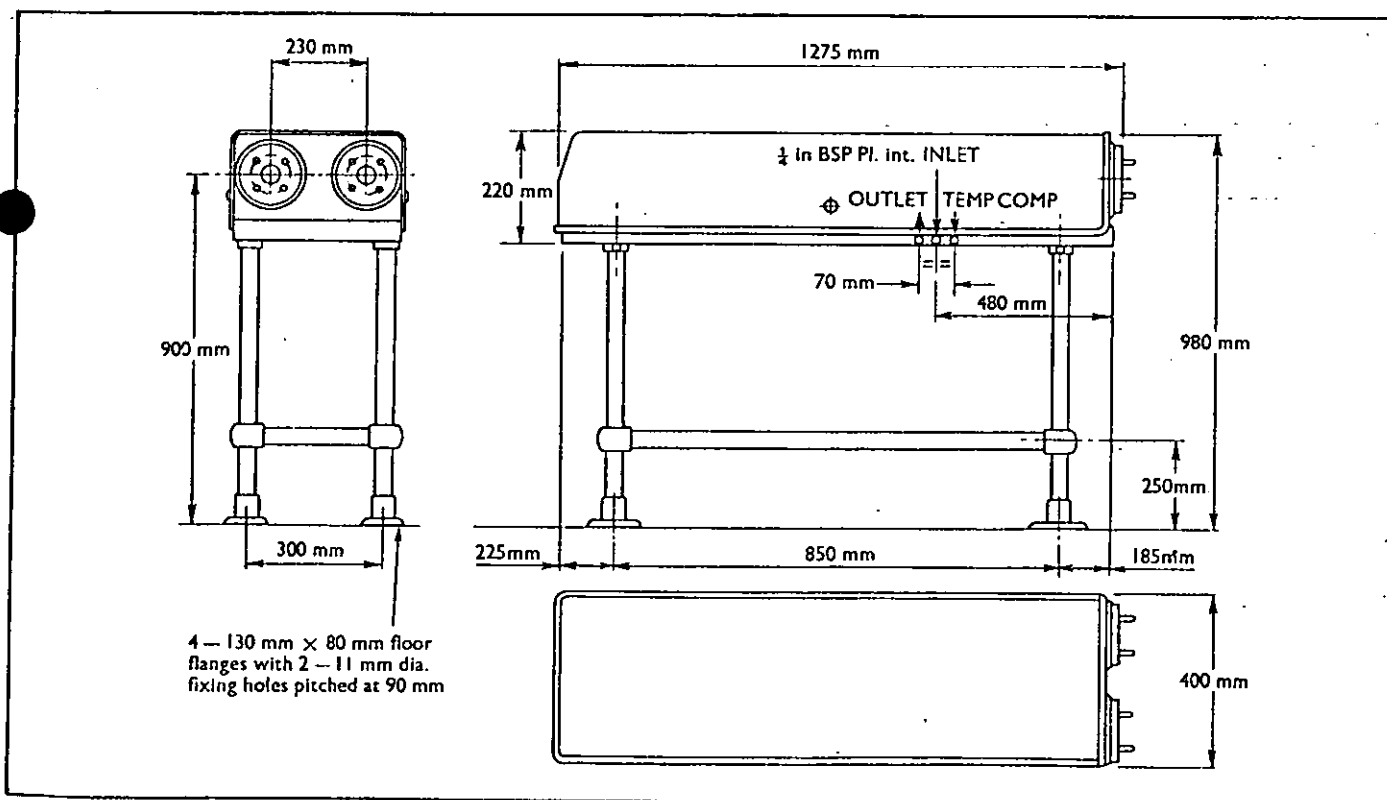
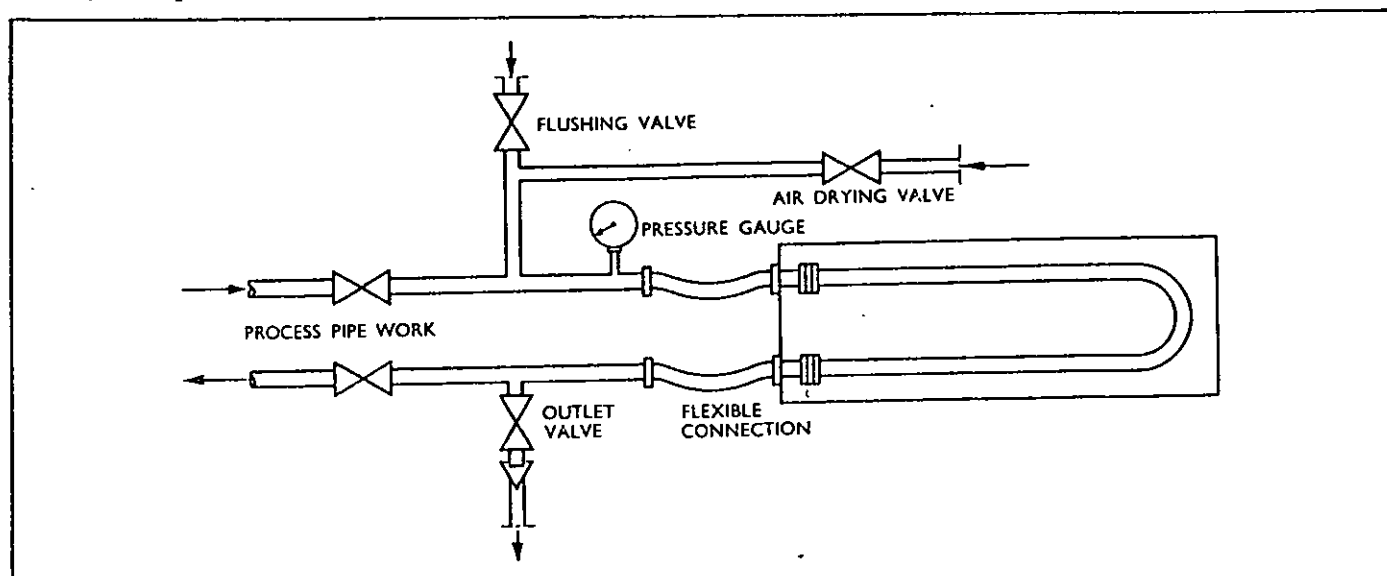

Fig. 2
Fig. 3
- 3.1 Mount density meter on legs (fig. 2) or other suitably prepared stand and connect process pipework. Ensure tube loop remains dry. A typical installation is shown in fig. 3.
Should a deposit settle inside the tube loop an output error will become apparent because of the increased weight and decreased volume. In most instances the deposit can be removed by flushing with a solvent that does not affect the wetted parts (see fig. 3).